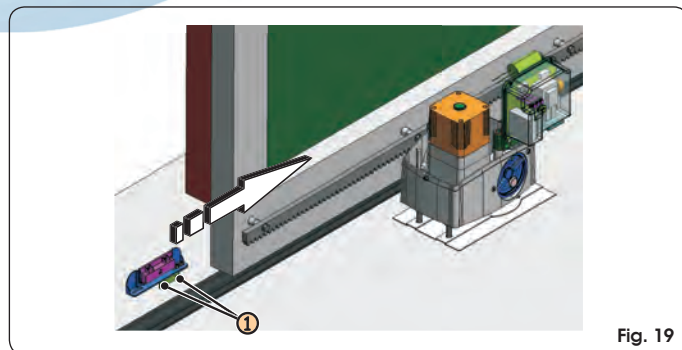

Fig. 19
- ② Set the operator to manual mode operation - as per paragraph 8 - and power up the system.
- ③ Manually take the gate to opening position, leaving 4 cm from the travel limit mechanical stop.
- ④ Slide the magnet nearest to the operator on the rack, in the direction of the motor - see figure 19. As soon as the LED on the board, referring to the travel limit stop, goes OFF, take the magnet forward by another 10 mm and fasten it with the appropriate screws (Fig. 19 ref. ①).